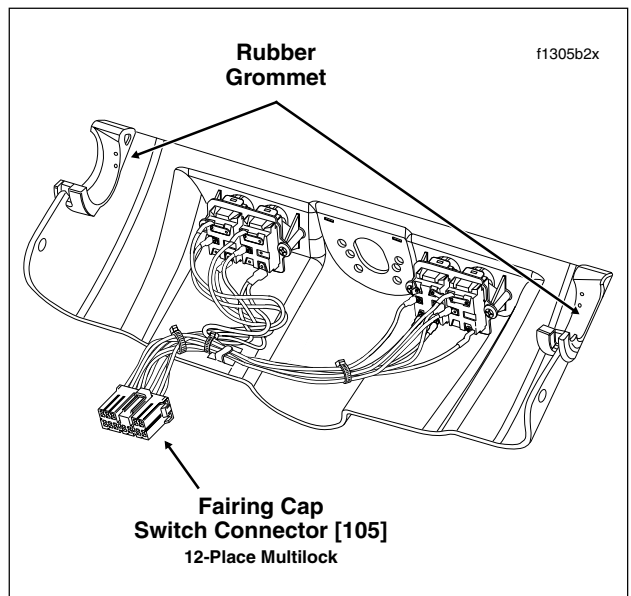

Figure 2-151. Fairing Cap Assembly (FLHT/C/U)
4. Remove the fairing cap from the motorcycle. See Figure 2-151.
1. Verify that the rubber grommets are installed on each side of the fairing cap. Barbs on cap fit into holes in grommets. See Figure 2-151.